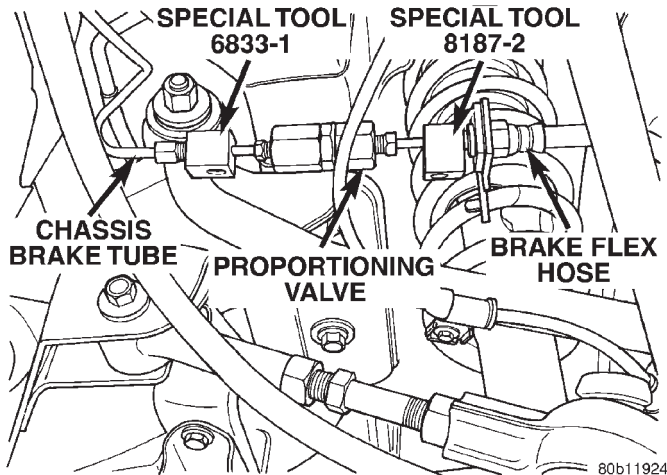

Fig. 18 Proportioning Valve With Pressure Test Fittings Installed
(5) Install proportioning valve Pressure Test Fitting, Special Tool 8187-2 on brake flex hose (Fig. 18) and securely tighten. Install the chassis brake tube (Fig. 18) in Pressure Test Fitting, Special Tool 6833-1. Tighten tube nut to a torque of 17 N·m (145 in. lbs.)